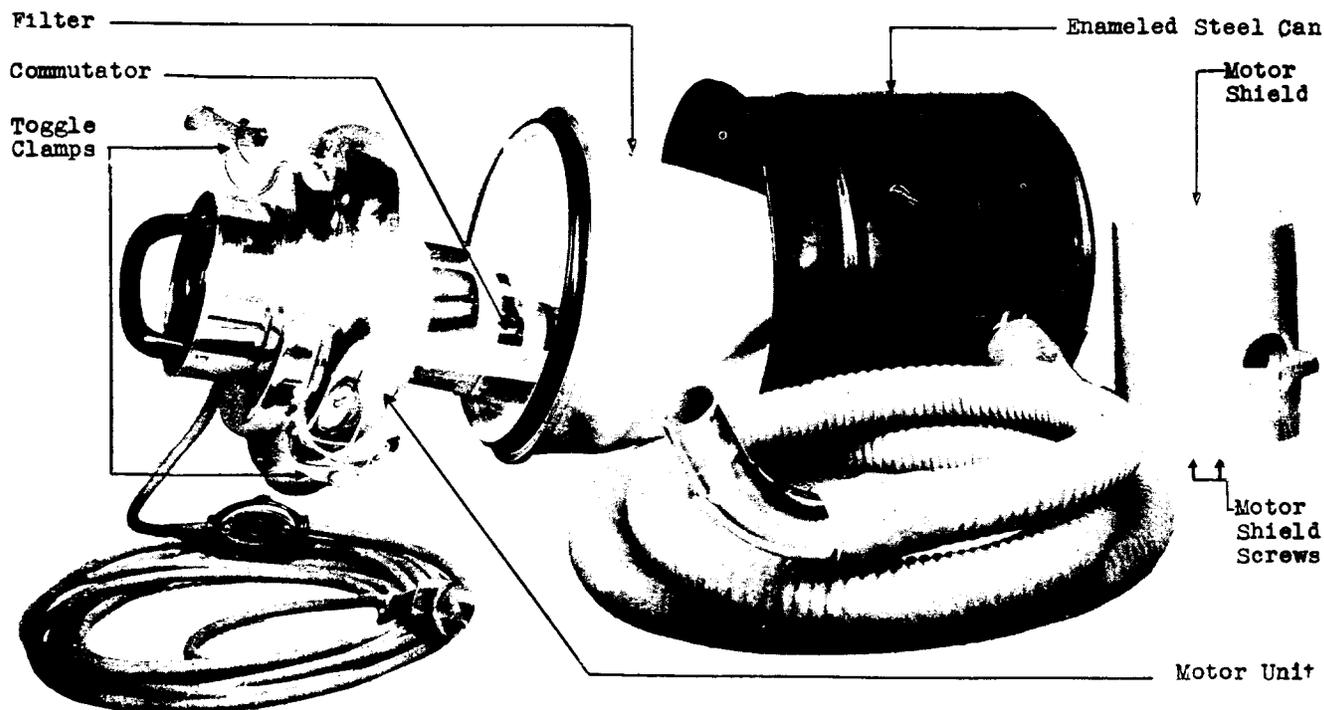
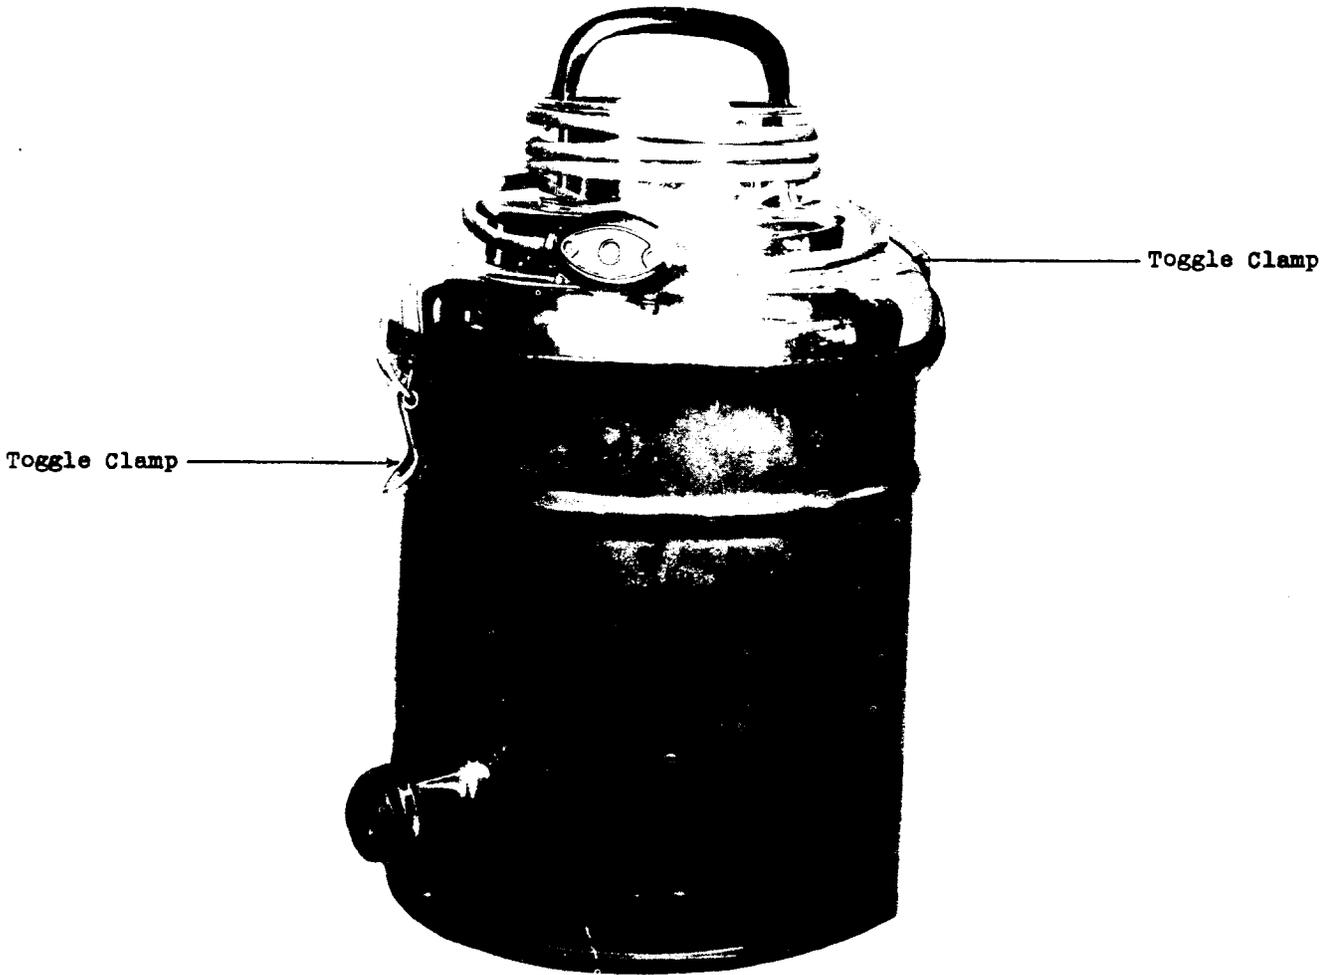
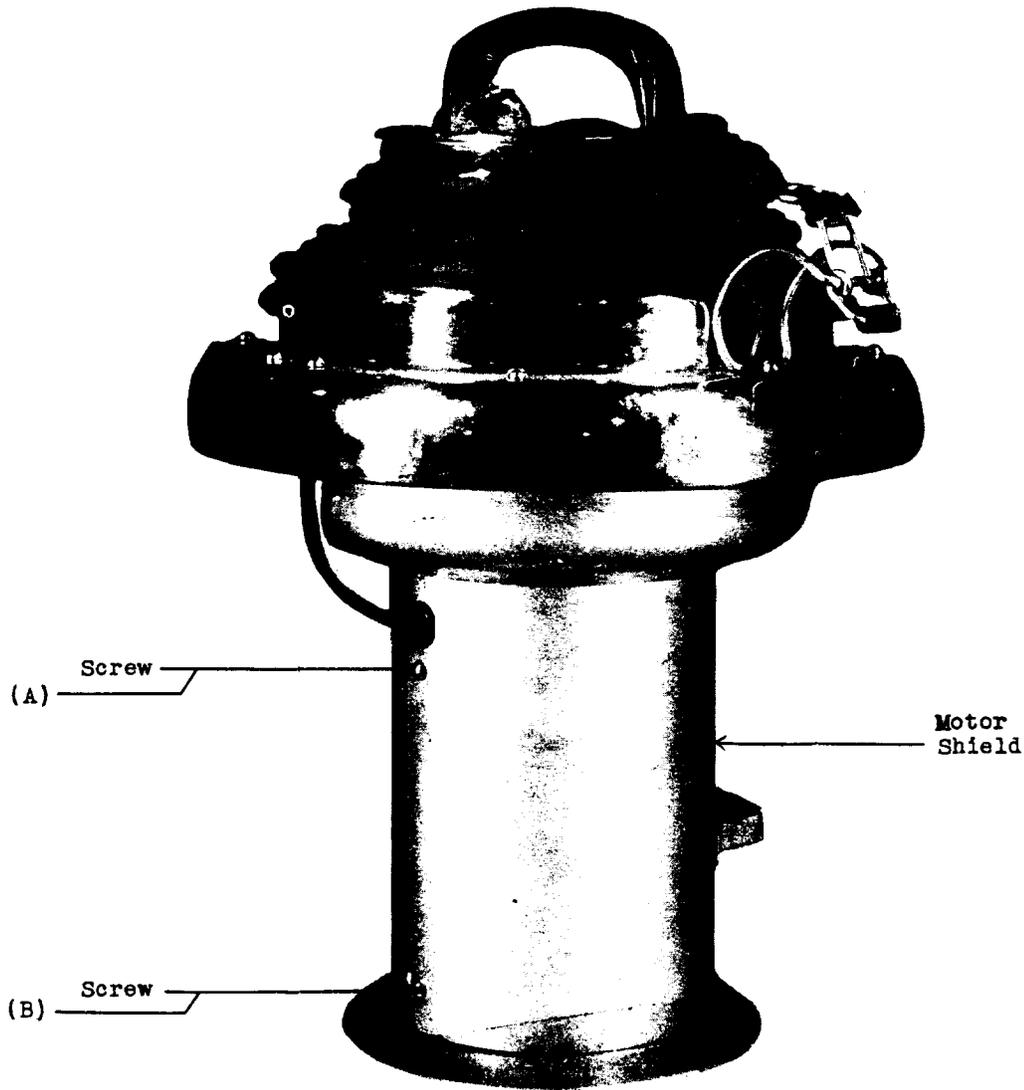

Fig. 1 - Vacuum Cleaner - Disassembled
Fig. 2 - Vacuum Cleaner - Assembled
Fig. 3 - Motor Unit - Shield Mounted
(a) Enameled Steel Can. Fig. 1
(b) Filter. Fig. 1
* (c) Motor Commutator. Fig. 1
(a) Commutator Surface: The surface of the commutator, Fig. 1, shall be free from scoring, pitting or other deformation of the surface or structure save that caused by normal wear. Gauge by eye.
(1) Perform the following cleaning operations at a point remote from central office apparatus.
(2) Unfasten the toggle clamps, Fig. 2, and remove the motor unit and the filter, Fig. 1, from the enameled steel can.
(3) Empty the dirt from the enameled steel can.
(4) Remove loose dirt and dust from the filter. If the filter has become soiled to the extent that the efficiency of the machine is impaired, it shall be dry cleaned or replaced.
(5) Remove screws (A) and (B), Fig. 3, using the 3-1/2 inch cabinet screw-driver. Remove the shield.
- (1) Unfasten the toggle clamps (Fig.2) and remove the motor unit from the enameled steel can.
- (2) Remove screws (A) and (B) (Fig. 3), using the 3-1/2 inch cabinet screwdriver. Remove the shield.